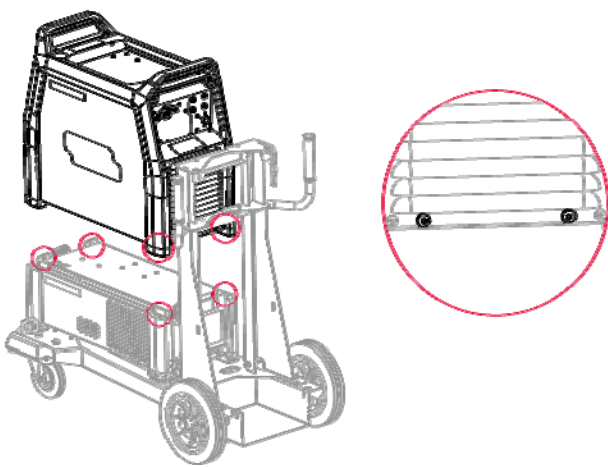

Figure 2
- Place the SPEEDTEC on top of the cooler (Figure 2).